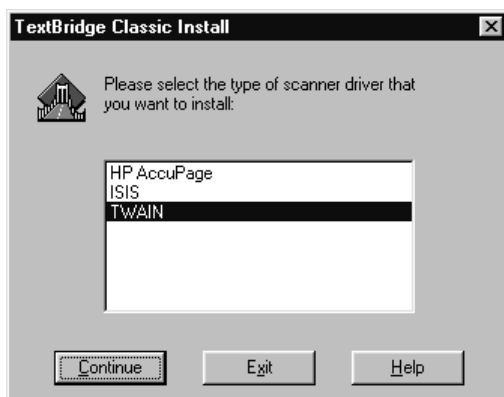

Figure 7: Selecting the input equipment
12. After installation you have to select the scanner type. Select 'TWAIN' and 'Continue'. See figure 7. A window showing the available TWAIN drivers is displayed.